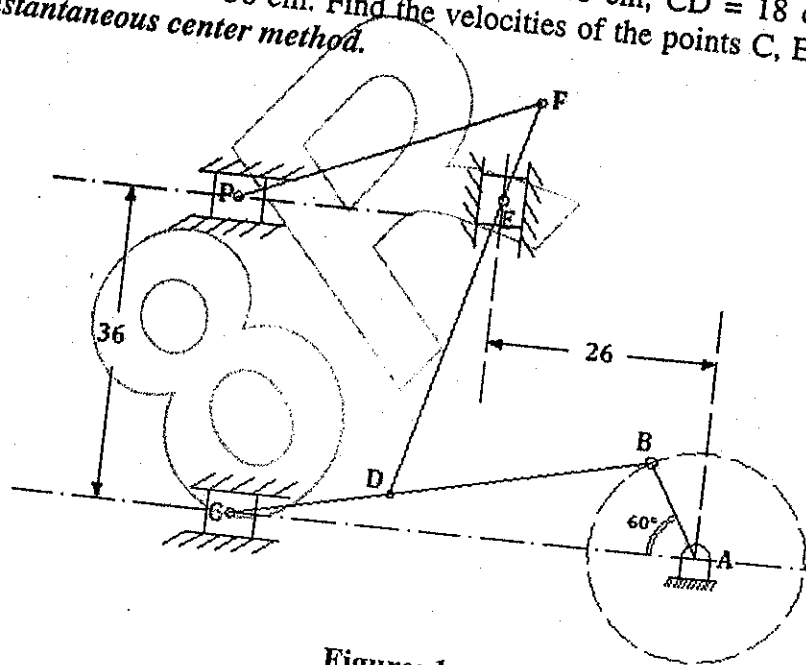

Figure: 1
5. In a mechanism shown in figure 1, the crank AB rotates clockwise at 200 rpm. The link lengths are: AB = 12 cm; BC = 48 cm; CD = 18 cm; DE = 36 cm; EF = 12 cm; FP = 36 cm. Find the velocities of the points C, E, and P, using the *Instantaneous center method*. [10]